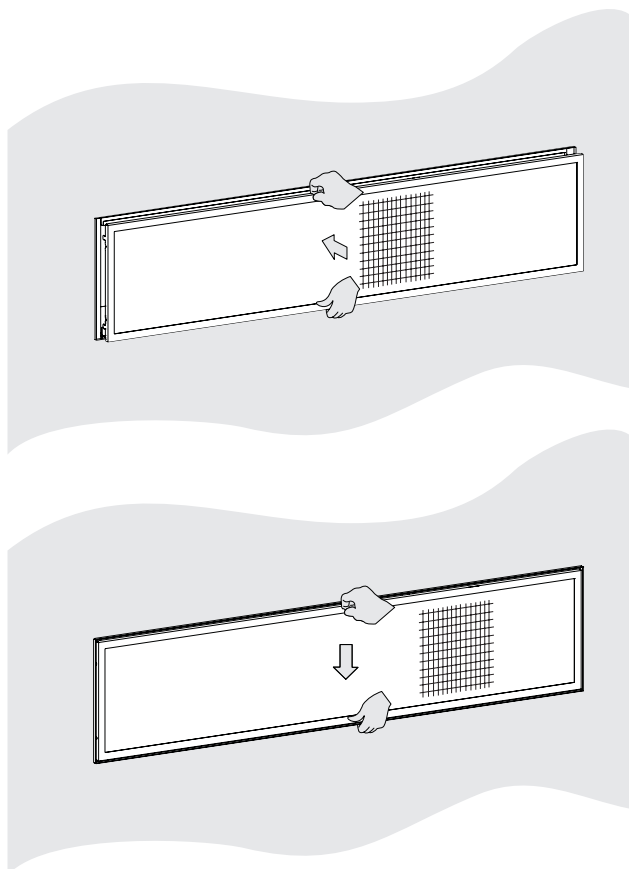

Figure 10
1. Reinstall the Barrier Screen onto the fireplace by lining up the tabs with the slots in the firebox. Push the barrier screen toward the unit and lower it slightly to lock in place. See Figure 10.